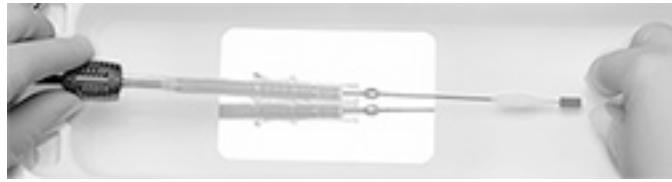

Figure 13
- Continue to advance the capsule guide tube over the catheter shaft towards the handle until it contacts the distal end of the capsule (Figure 13).